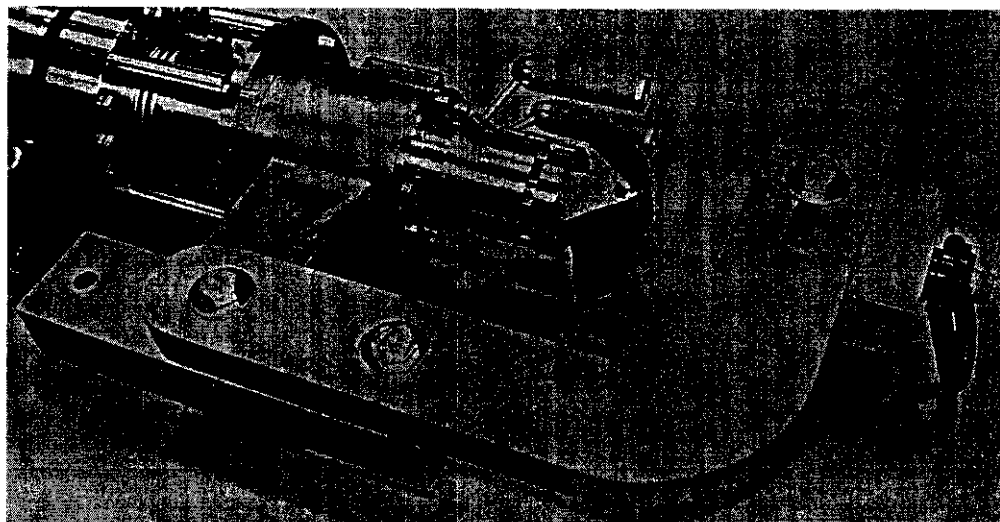

Figure 1.17 The lifting/insertion tool in position to lift the power lead into a vertical position.
1.17 Swing the lifting/insertion tool 180 degrees as shown in Figure 1.17 in preparation for lifting the power lead into the vertical position.